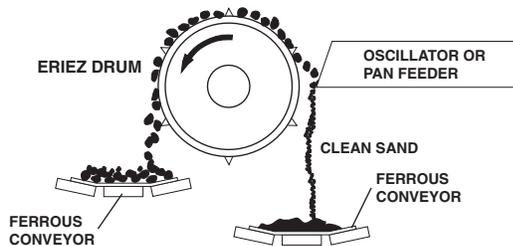

FIGURE 6.
- Feed to the side of the drum as shown in Figure 6.